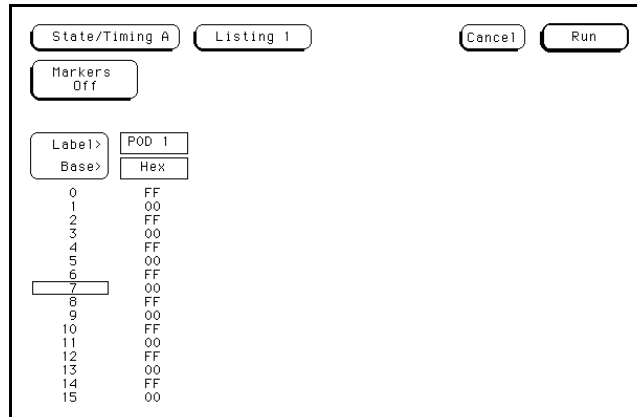

Figure 3-28. Listing Screen
6. Touch **Run**. The State Listing screen will be displayed and should list alternating F's and 0's as shown in figure 3-28.